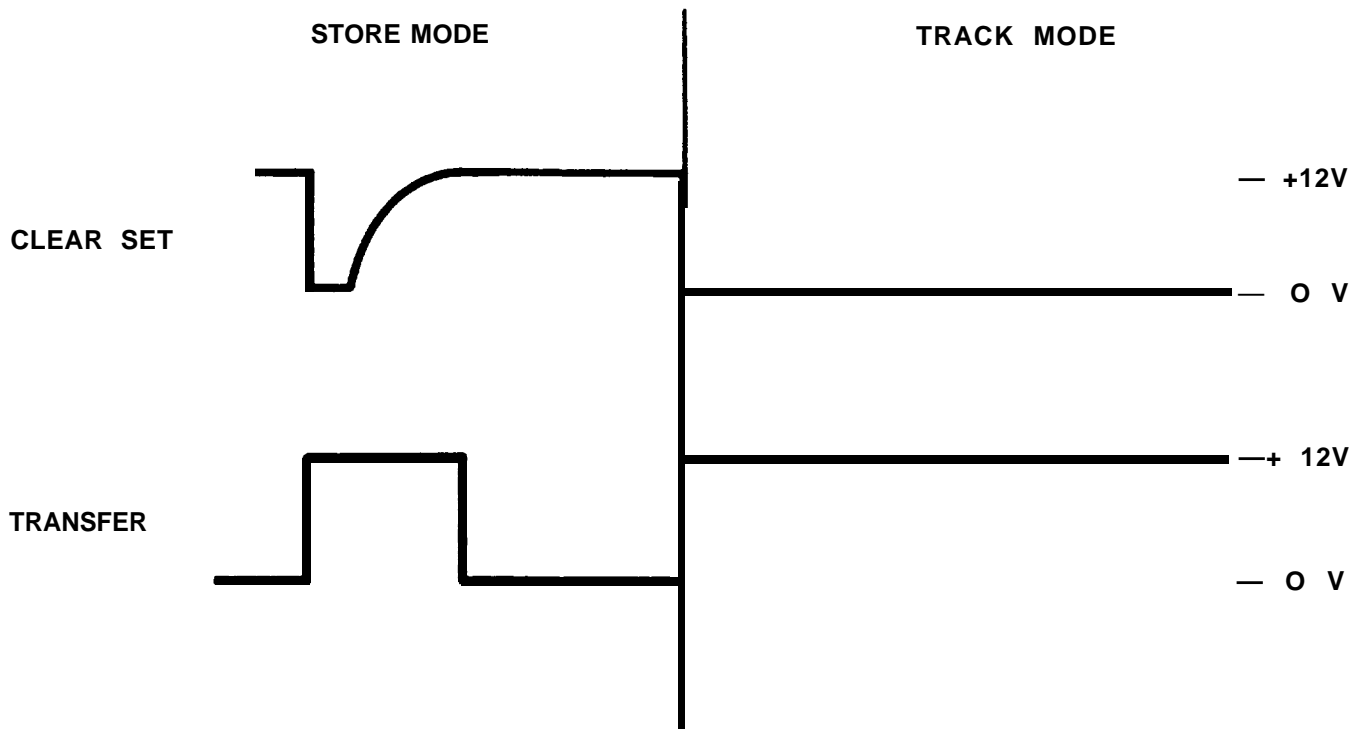

Figure 4-25. Store and Track Mode Readout Waveforms
The silicon-controlled switches are also used as the storage elements when the counter is operated in the store mode. In this mode of operation the positive clear-set voltage keeps the silicon-controlled switch in conduction after the AND gate is no longer activated. This causes the number displayed to remain illuminated even though the number in the count decade changes. When the clear-set voltage is removed the silicon-controlled switch cuts off. To turn on the switch the AND gate must be reactivated. In the store mode this requires the presence of the transfer signal as well as the proper inputs from the count decades. Thus, the AND gate turns on the silicon-controlled switch, application of the clear-set signal holds it on, and removal of clear set turns it off. Figure 4-25 shows the relationship between the clear set and transfer signals during store and track operation.
c. USEFUL ILLUSTRATIONS. - Illustrations useful in maintaining this functional section are: figures 4-25, 4-26, 4-27, 4-28, 4-29, 5-43, 5-48, 5-49, 5-50, 5-77, 5-78, and 5-79.